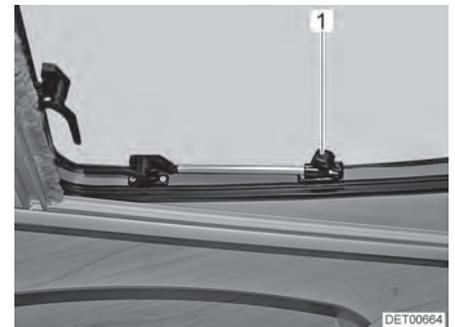

Fig. 47 Roof window with rotary hinges, open
- Open the roof window until the required position has been reached and use knurled knob (Fig. 47,1) to secure in position.
- Turn knurled knob (Fig. 47,1) until the latch is released.